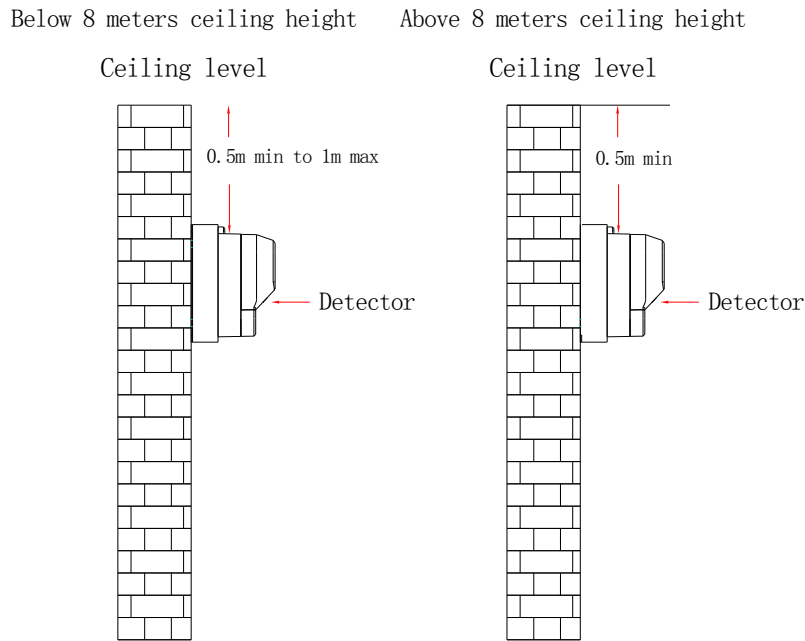

Figure 5 Installation Details
- ✧ Under flat spare area, if the ceiling height is less than 5.0m, the detector should be installed 0.5 m to 1.0m below the ceiling level. Refer to Figure 5.
- ✧ Under flat spare area, if the ceiling height is more than 8.0m, the detector should be installed minimum of 0.5 meter below the top ceiling. Refer to Figure 5.